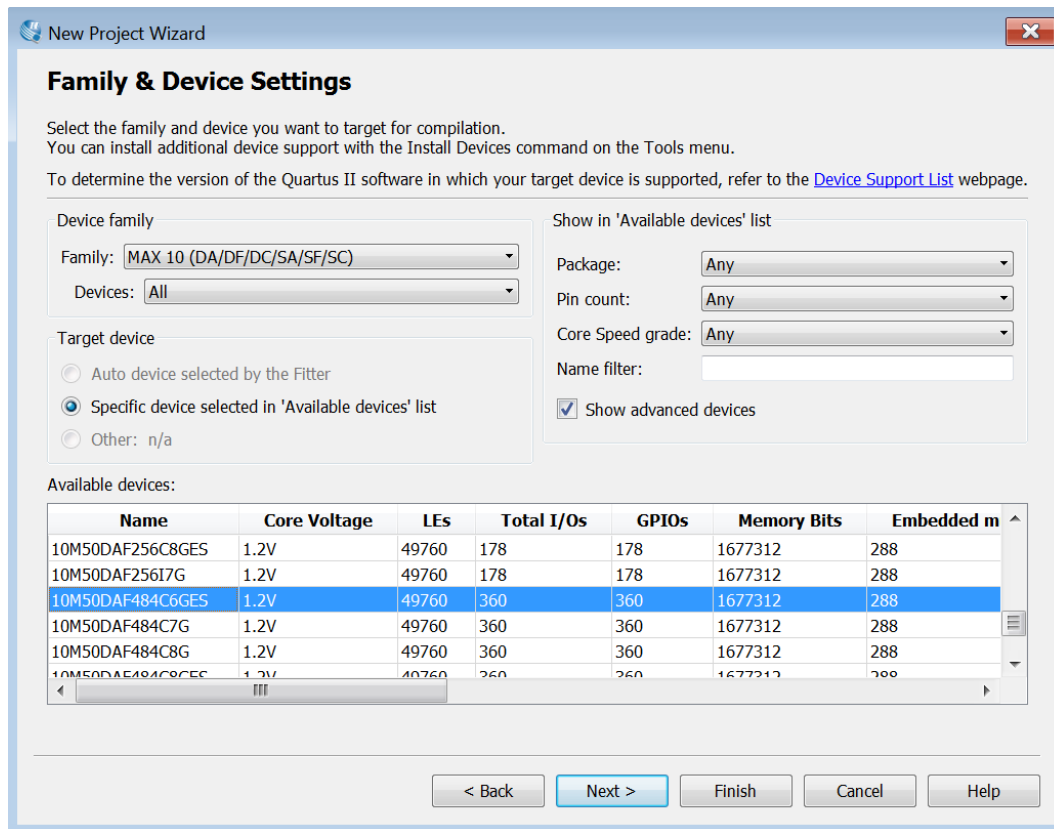

Figure 2-3 Specify the Device Example
- g. You will assign a specific FPGA device to the design and make pin assignments. See **Figure 2-3**.